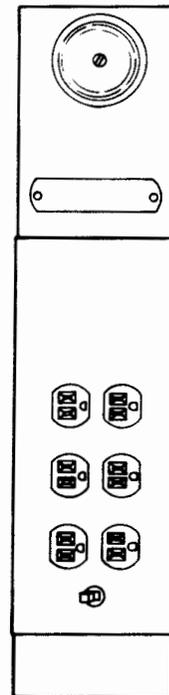

Figure 7 - Utility Strip
2.23 An electrical service unit variation utilizes a utility strip (Figure 7). The utility strip is a separate chassis containing some of the components normally contained in the main chassis. These components are the copyright transformer, motor control relay, ac receptacles, a circuit breaker instead of a fuse, and the signal bell which is normally mounted separate from the main chassis.